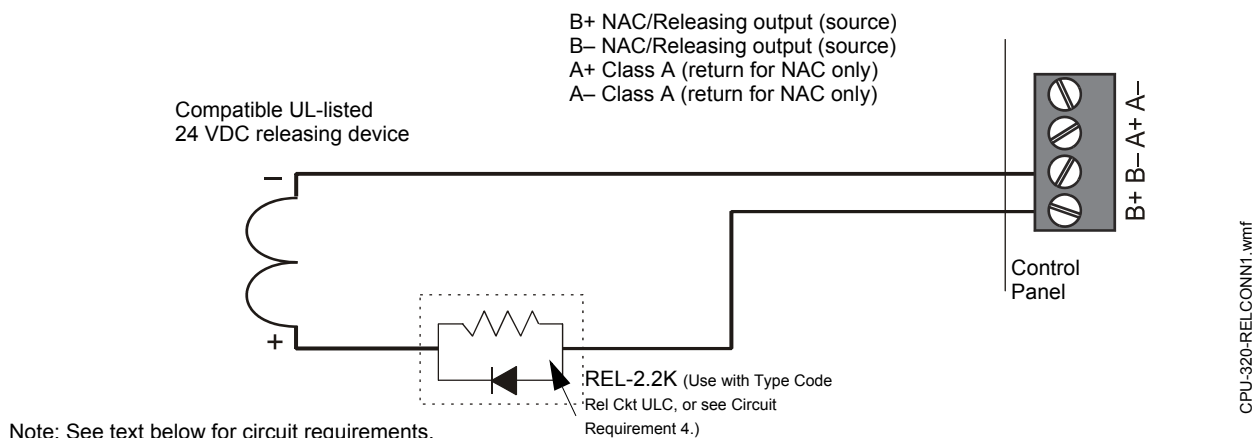

Figure 4.7 Typical Class B Connection of a Releasing Device to Control Panel
- a) Use an in-line supervisory device (P/N REL-2.2K) with control panel releasing circuits. Connect the End-of-Line device as shown in Figure 4.7.